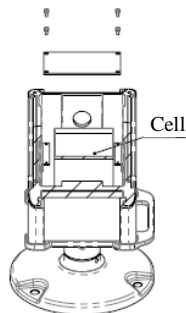

Figure 4-2
2. Unscrew four screws on the pressing bracket and take out it (Figure 4-2);